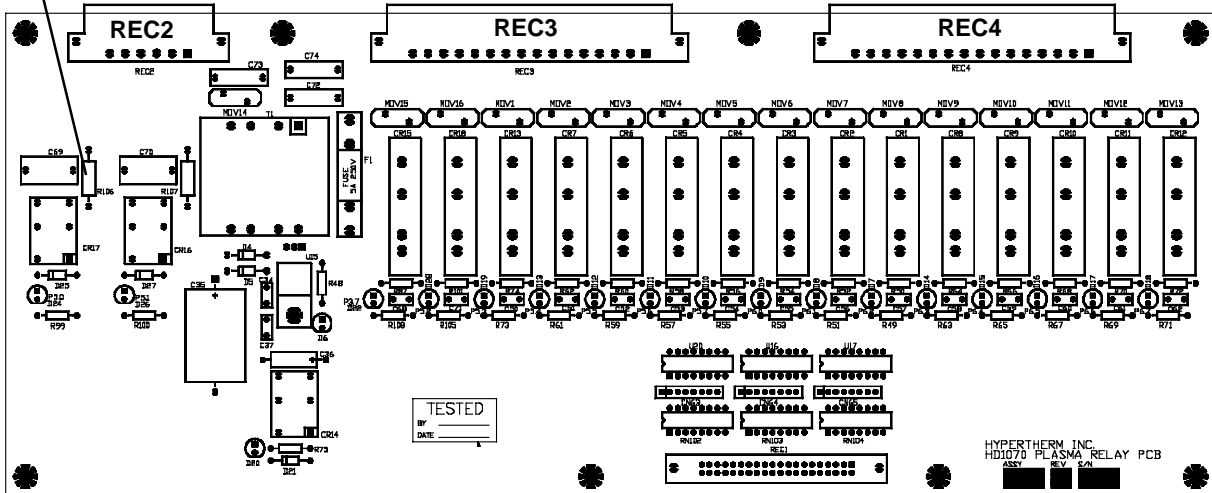

Figure 6 Relay Board
1. Find REC4 on the Relay Board - See Fig. 6.
1. Find REC3 on the Relay Board - See Fig. 6.